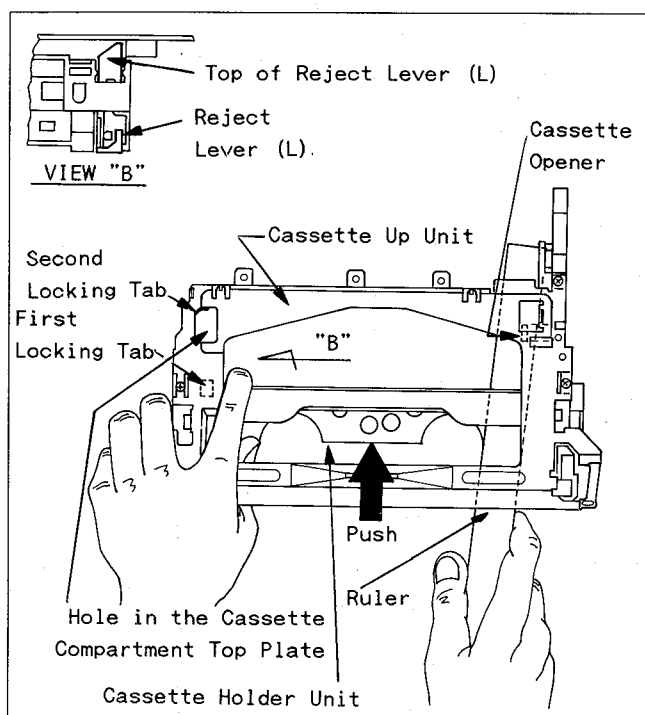

Fig. 8
2. First insert a ruler against the bottom right side of the Cassette Up Unit so it lies over the Cassette Opener to keep it in the down condition as shown in Fig. 8.
3. With the ruler in place, put the left index finger on the Reject Lever (L) as shown in Fig. 8 while pressing the Cassette Holder Unit into the loading condition with the left thumb.
4. Hold the ruler until the Cassette Holder Unit clears the second Locking Tab of the Side Plate (L) and passes beyond the cassette reject slot of the Side Plate (R). Quickly remove your index finger after the Cassette Holder clears the first Locking Tab of the Side Plate (L). Then immediately push down on the top of the Reject Lever (L) with the index finger through the hole in the Cassette Compartment Top Plate to clear the second Locking Tab. After clearing the second Locking Tab and the cassette reject slot, the Cassette Holder Unit will move into the down position by itself.